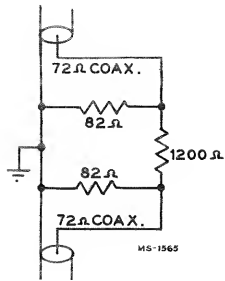

Figure 21—Sound Attenuator Pad
**Sound Attenuator Pad.** — Refer to figure 21 under Alignment Procedure.
Connect the sound attenuator pad, shown in figure 21, in series with the VHF signal generator to the front terminal of CR1, using the "Input Head." Use internal modulation of the VHF signal generator and set the generator to 43.0 mc. Note the output level on the oscilloscope at 43.0 mc. Remove the attenuator pad and reconnect the signal generator to CR1. Set the signal generator to 41.25 mc. and readjust T106 (top) for minimum response.